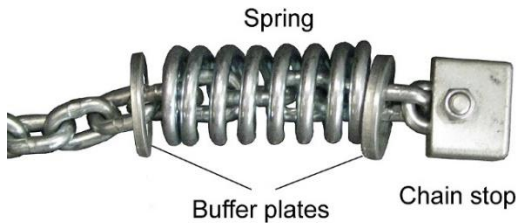

Figure 13-1
- On the slack side of the chain, remove the chain stop, spring, and plates (Figure 13-1). Keep these handy for later re-installing.
9. Install the chain stop, spring and plates (Figure 13-1) on the slack end of the chain.
4. On the slack end of the chain, remove the chain stop, spring, and plates (Figure 13-1). Keep these handy for later re-installing.
10. Install the chain stop, spring, and plates (Figure 13-1) on the slack end of the chain.